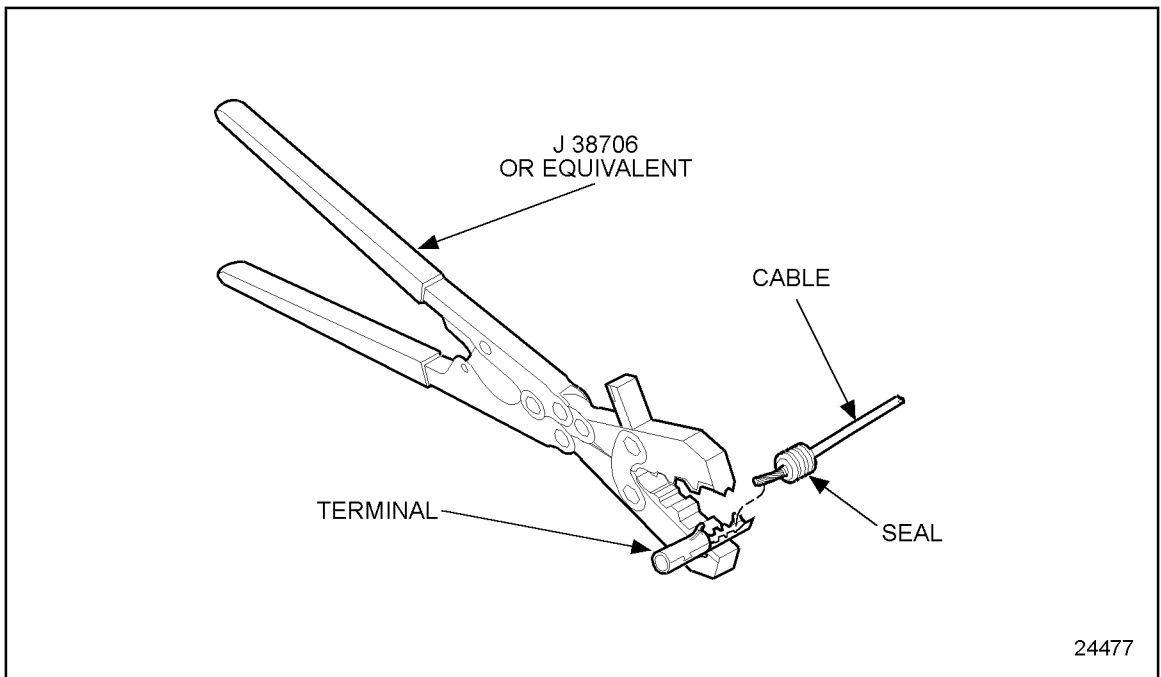

Figure 8-13 Crimping Procedure
- Crimp new terminal onto wire using the crimp tool. See Figure 8-13.